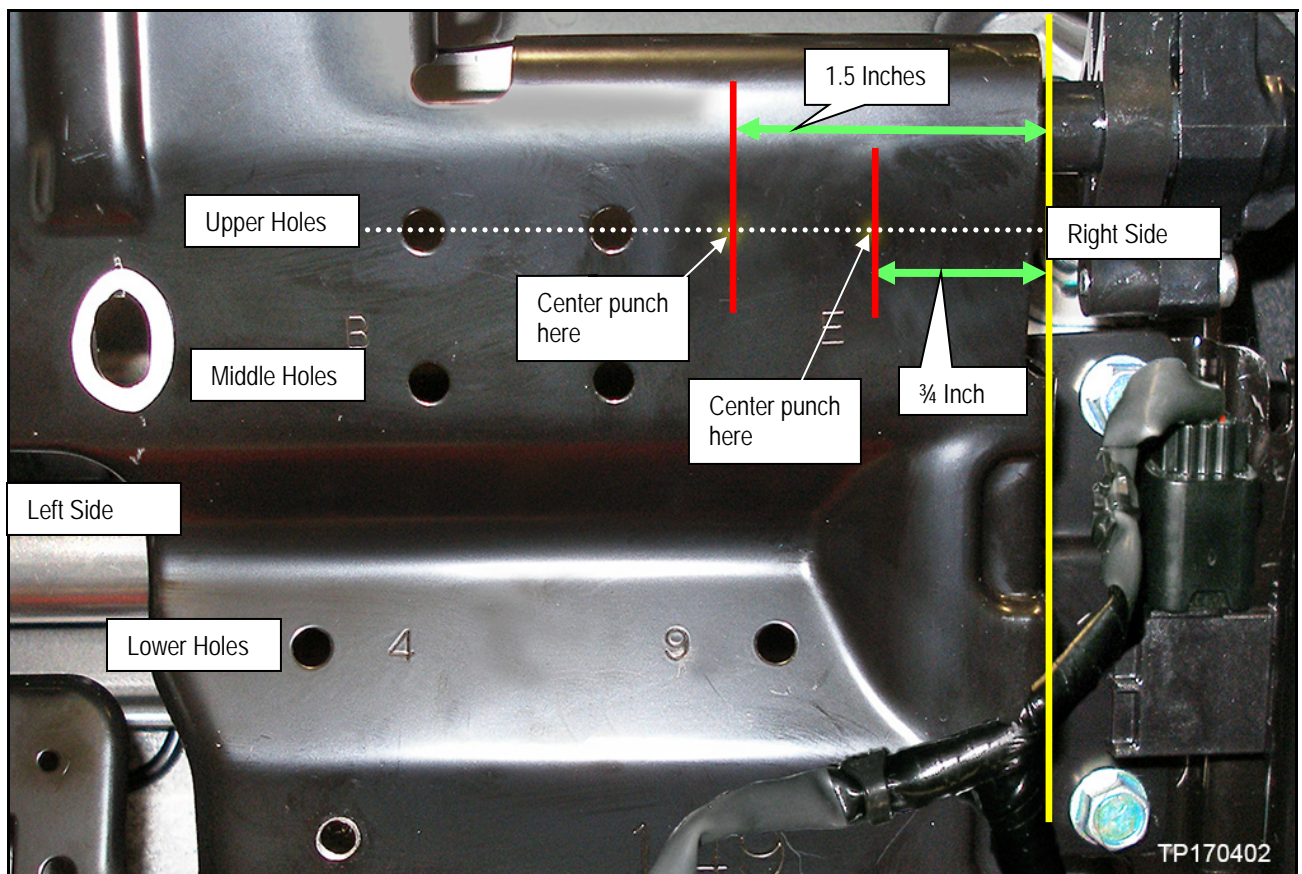

Figure 5
19. Mark the locations for drilling 2 new upper holes (see Figure 5).